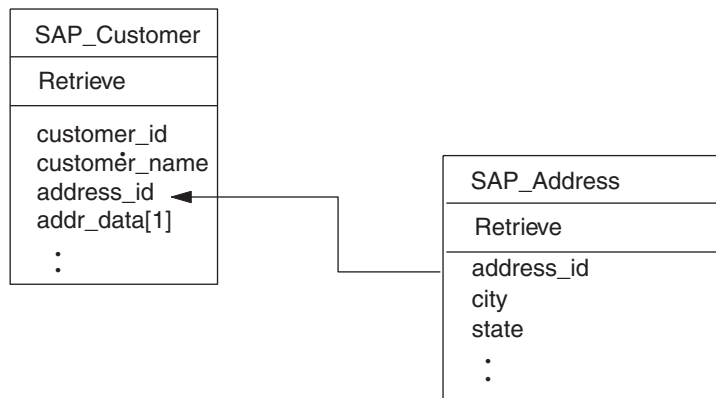

Figure 60. Example customer and address relationship
- In a single-cardinality relationship, the foreign key is determined by the primary key in the child referencing a **non- key** attribute in the parent as its foreign key. Each child has at least one simple attribute that references a non-primary key attribute in its parent as a foreign key. Figure 60 provides an example.
Figure 60 provides an example of a simple WebSphere business object developed to process customer objects in SAP. This example SAP_Customer has a single-cardinality relationship to the example address object that it contains (the `addr_data[1]` attribute has cardinality 1). The primary key attribute (`address_id`) in the child business object references a non-primary key (`address_id`) in the parent business object.